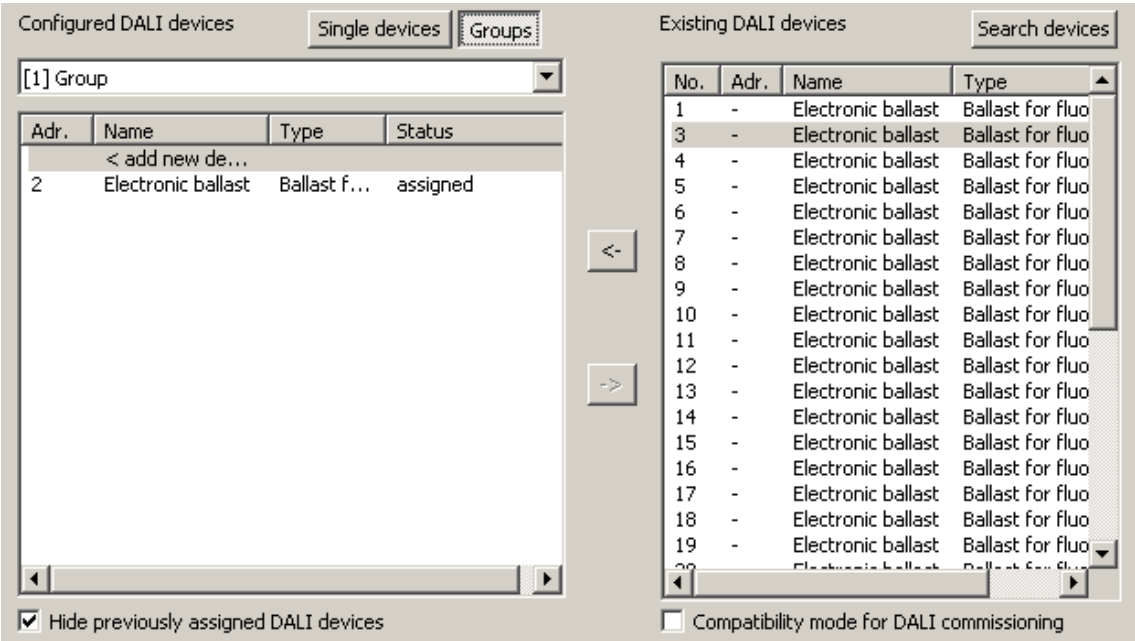

Figure 64: Operating device assigned to a group
- In the right-hand section, the assigned operating devices disappear from the list box and appear in the left-hand section for the selected group (Figure 64). The right-hand pane contains only the remaining operating devices, which are not yet assigned to a group.